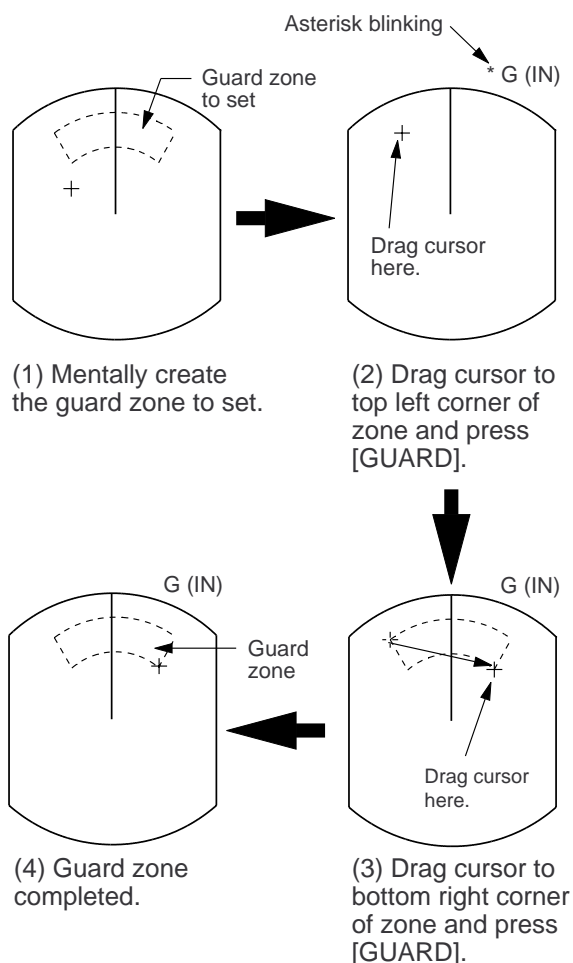

Figure 2-14 How to set a guard zone
- 1) Mentally create the guard zone you want to display. See Figure 2-14 (1).
- 2) Operate the omnipad to set cursor on top (bottom) left edge of the guard zone. Press the [GUARD] key. \*G (IN) (or G OUT)), with asterisk blinking, appears at the top right-hand corner on the display. (The asterisk indicates the guard zone is partially set.) See Figure 2-14 (2).
- 3) Operate the omnipad to set cursor on bottom (top) right edge of the guard zone and press the [GUARD] key. The asterisk disappears. See Figure 2-14 (3).
- 4) Guard zone appears on the display. See Figure 2-14 (4).